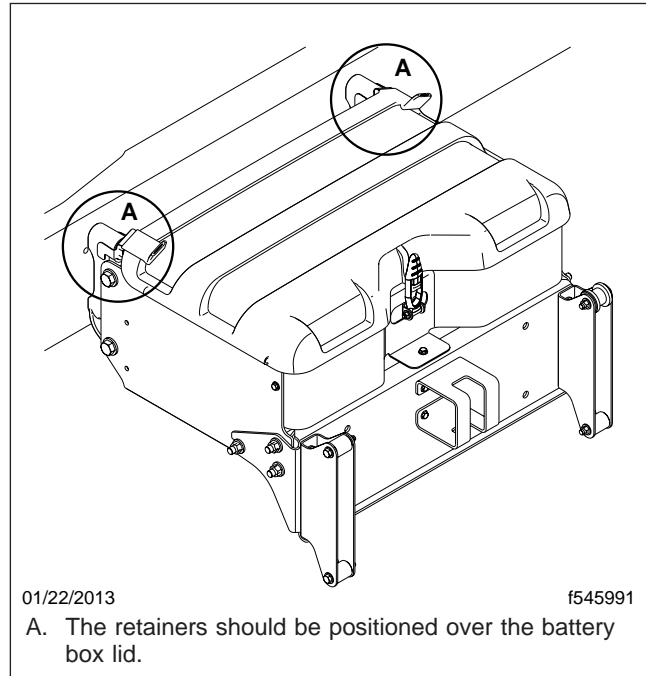

Fig. 2, Battery Box Retainer Installation
6. Install the batter box lid so it fits securely over the seals. See Fig. 2.